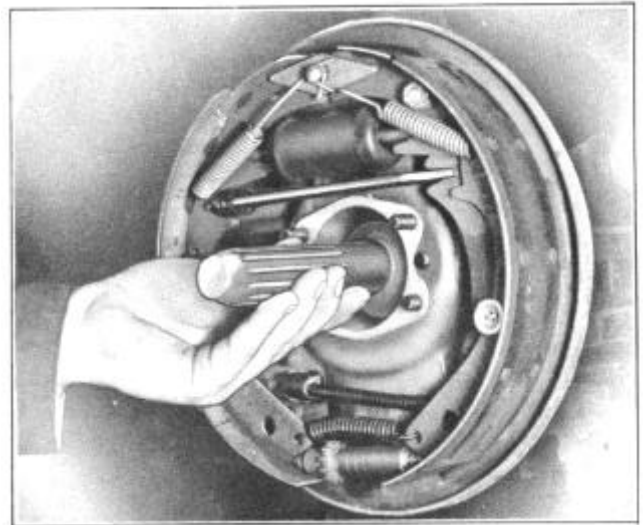

FIGURE 33
1. Replace axle shaft inner oil seals, using oil seal replacing tool J-2159, Figure 33.